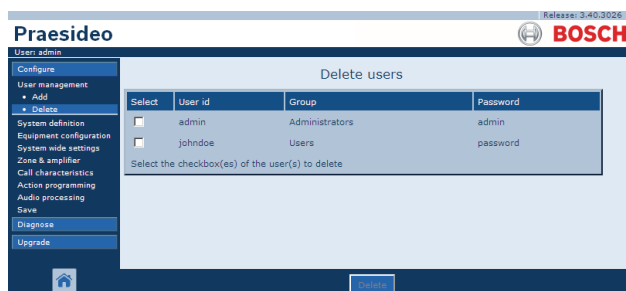

figure 42.5: Delete user, step 1
- 1 Go to *Configure > User management > Delete*. A screen similar to the one in figure 42.5 appears in the main frame of the web interface.